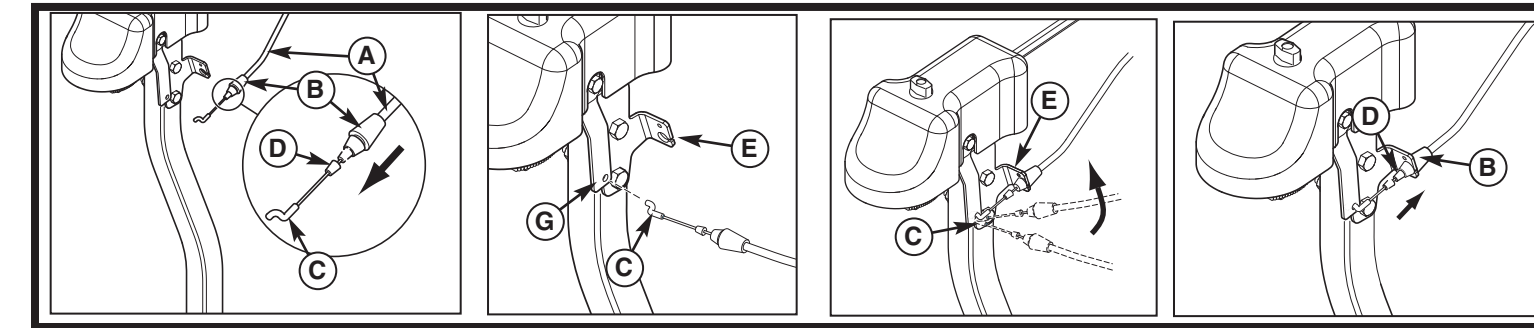

Figure 10
- Slide the rubber dust cover (D, Figure 10) off of plastic fitting (B).
- Place "Z" bend of cable (C) into hole (G) of brake lever assembly (E)
- Pull plastic fitting (B) behind bracket (E).
- Slide chute rotator cable (A) between slot in bracket (E) and push forward to lock in place.
- Slide the rubber dust cover (F) over the plastic fitting (B).